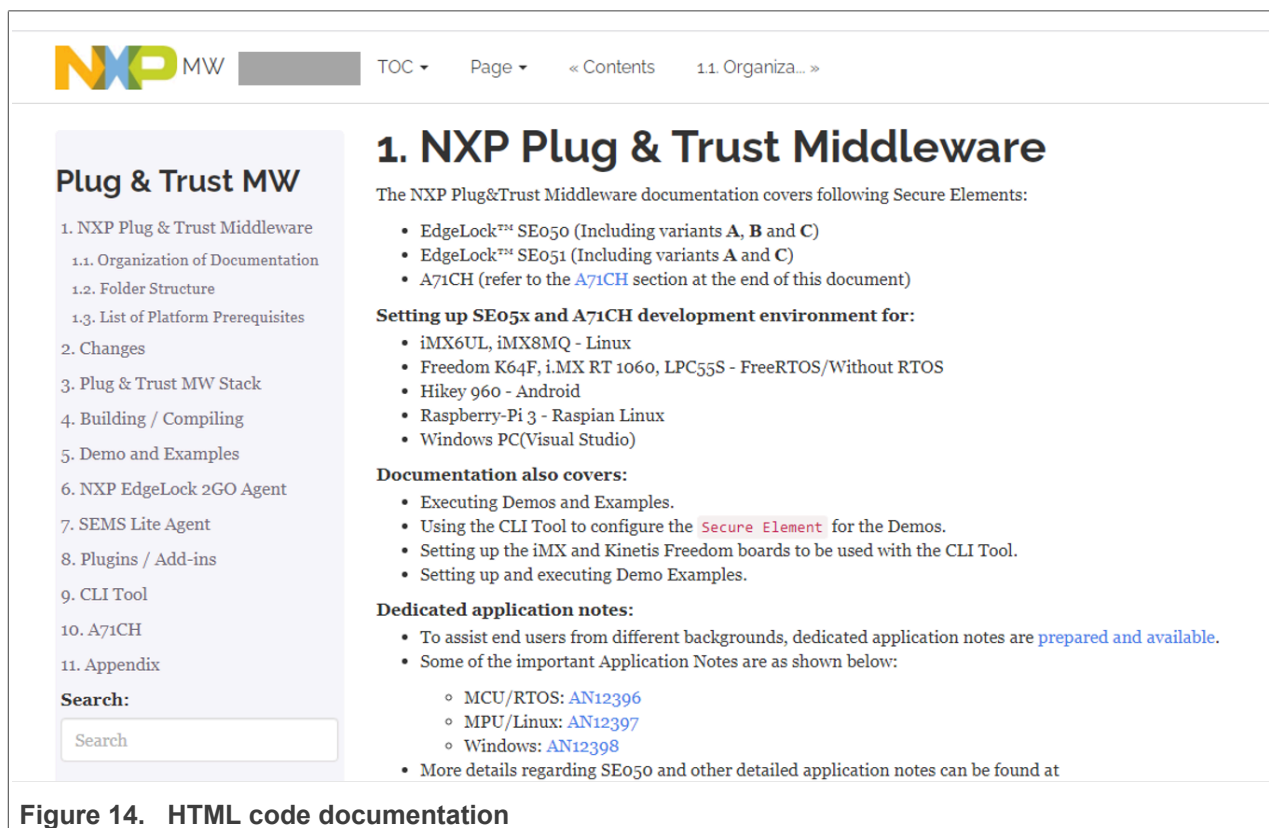

Figure 14. HTML code documentation
5. A browser with the documentation landing page will open as shown in Figure 14: